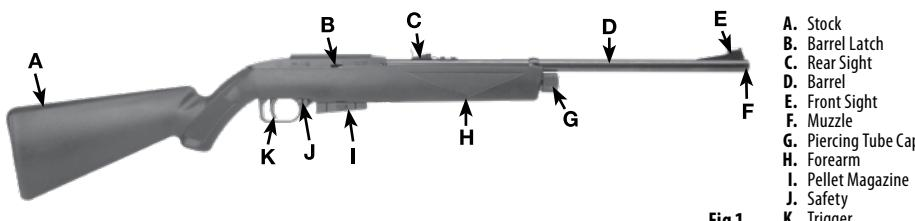

Fig 1
- Locate the safety of the air rifle directly in front of the trigger (Fig. 1).